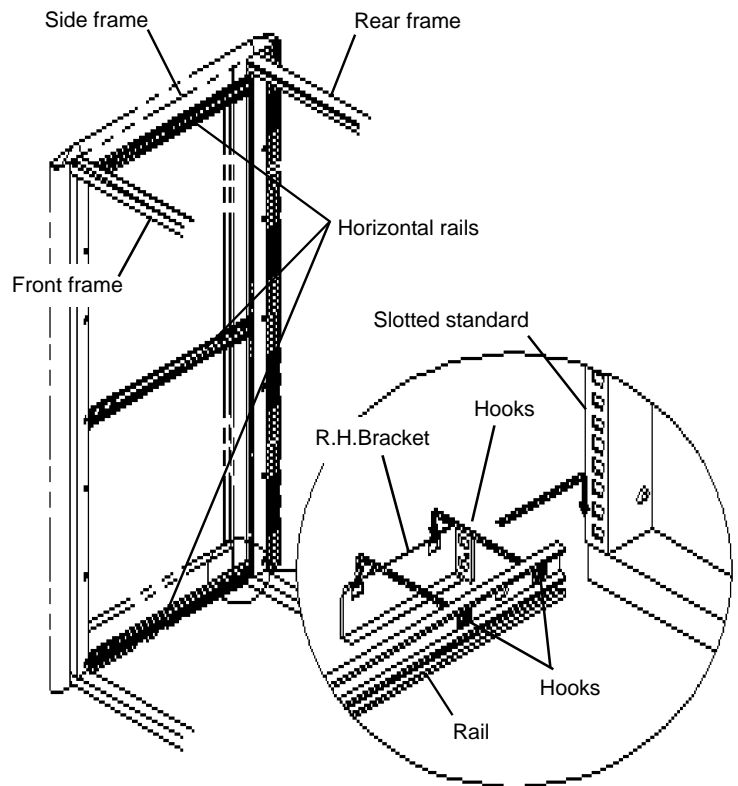

Figure 1
1. Install either two or three **Horizontal Rails**, depending on unit size, on each side of the unit. See **Figure 1**.
2. To locate the bottom Rail, install the left and right Brackets two slots up from the bottom of the unit. See **Figure 1**.